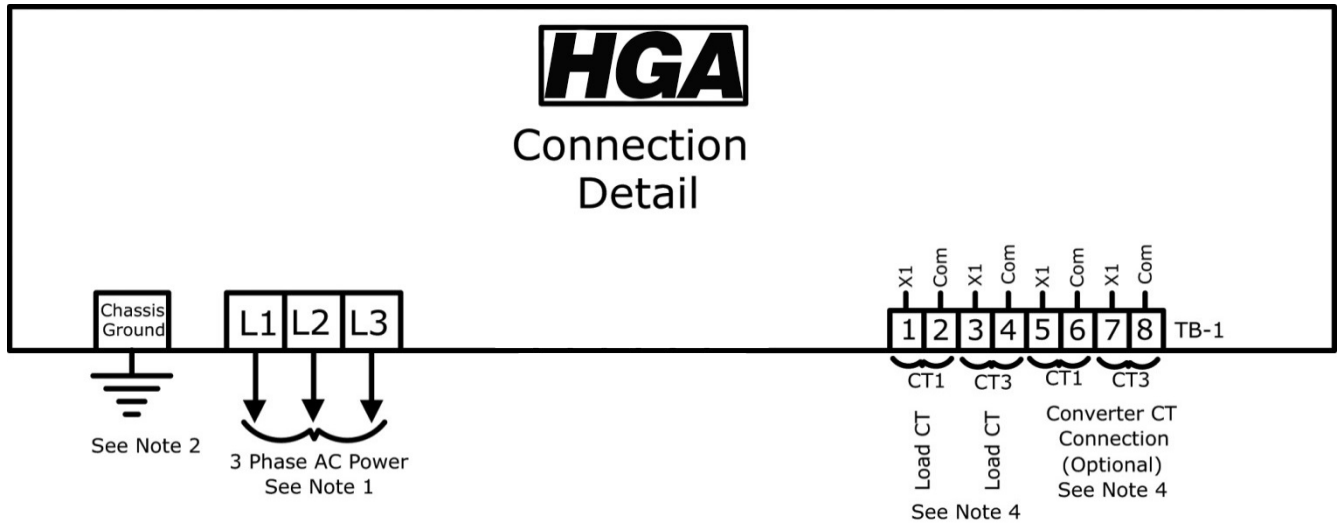
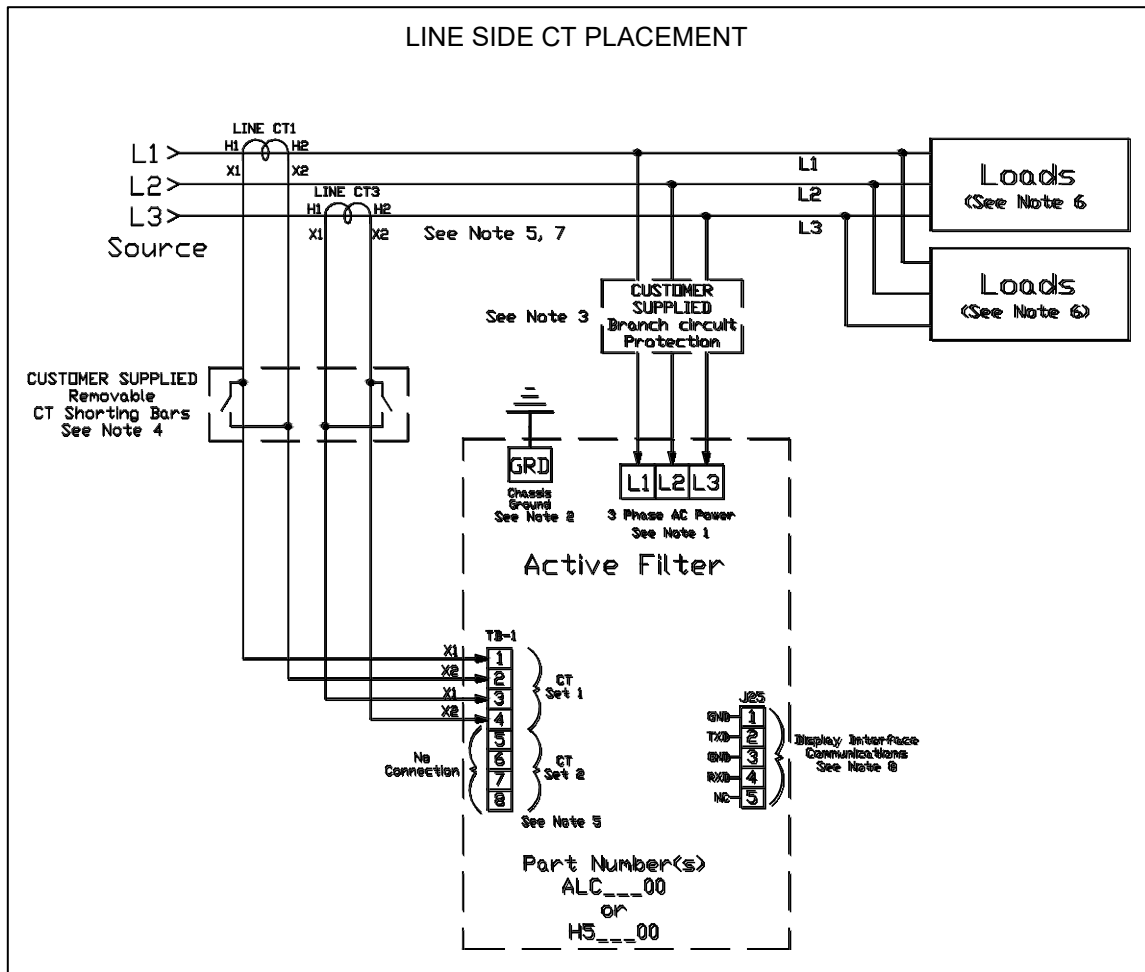

Figure 8: Load Connection Diagram
Figure 9: HGA 480 V Single Unit Line Side / Bus Applied Connection Diagram
It is necessary for the HGA to monitor the current in Phase "A" (L1) and Phase "C" (L3). Stand-alone HGA filters are designed for Line Side current transformer (CT) placement as shown in Figure 8. It is important that both CTs are on the same side of the HGA. The CTs should be centered around the conductor. Optional Load Side CT placement is available for single units as shown in Figure 9.